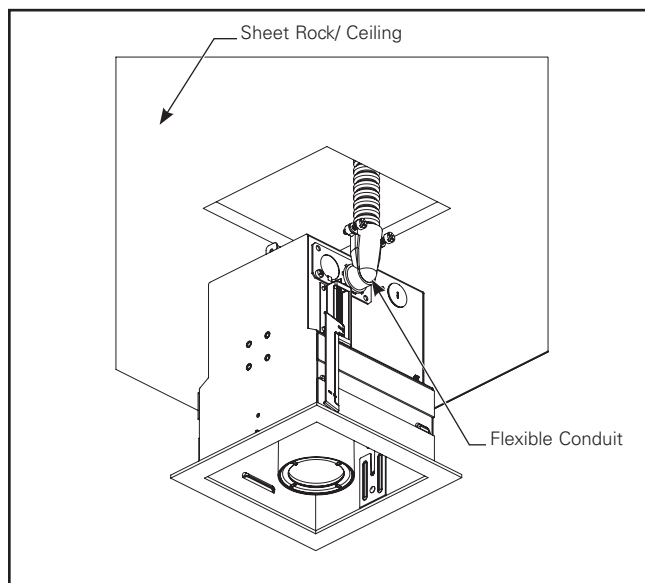

Figure 2.4.
- iv. Assemble access plate with #8-32 screws back to housing by tucking wires inside, Connect flexible conduit to access plate. (Figure 2.4)